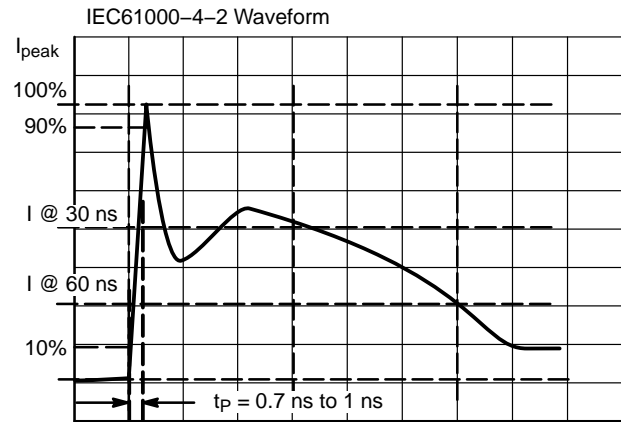

Figure 5. IEC61000-4-2 Spec
- For test procedure see Figures 5 and 6 and application note AND8307/D.